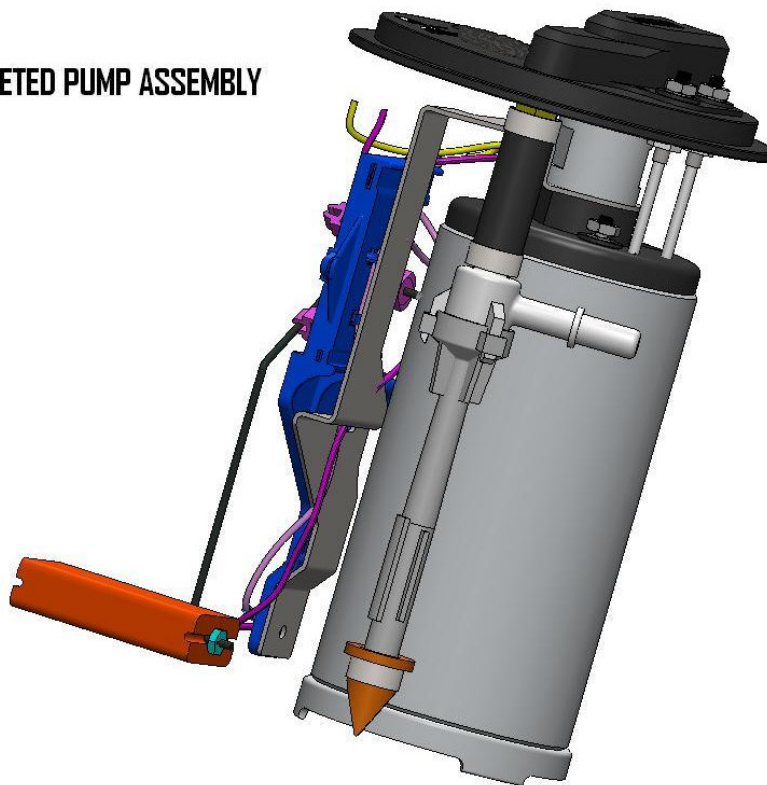

FIGURE 1-7
12. Re-install the factory electrical bulkhead in the Aeromotive top plate and re-attach the fuel level sensor connector. Connect the positive and negative pump wires from the Aeromotive top plate to the matching terminals on the top of the fuel pump. When finished it will look like **FIGURE 1-7**.